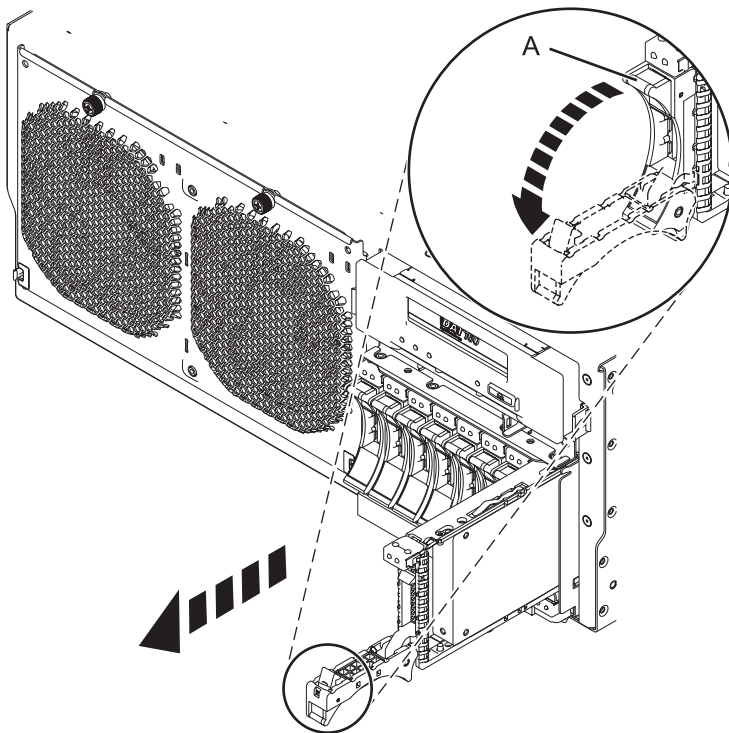

Figure 11. Removing a disk drive from the system
3. When the identify LED turns on solid, unlock the drive handle by squeezing it and pulling it out toward you, as shown in Figure 11. If the handle is not all the way out, the disk drive or solid-state drive cannot slide out of the system or out of the expansion unit.